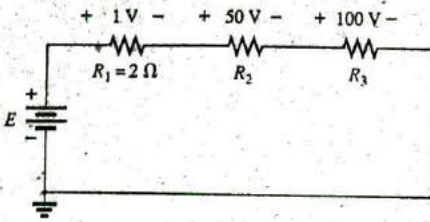

FIG. 5.109
25. Determine the values of the unknown resistors in Fig. 5.109 using only the provided voltage levels. Do not calculate the current!